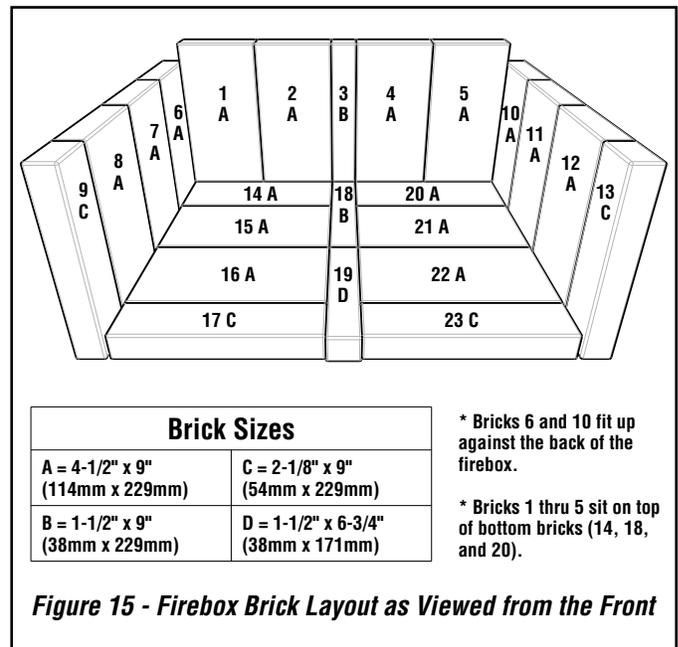

Figure 15 - Firebox Brick Layout as Viewed from the Front
Measure bricks before installing, as per list of dimensions in **Figure 15**, to be sure the correct bricks are installed in the correct location.
1. Install bricks #1-23 as shown in **Figure 15**.